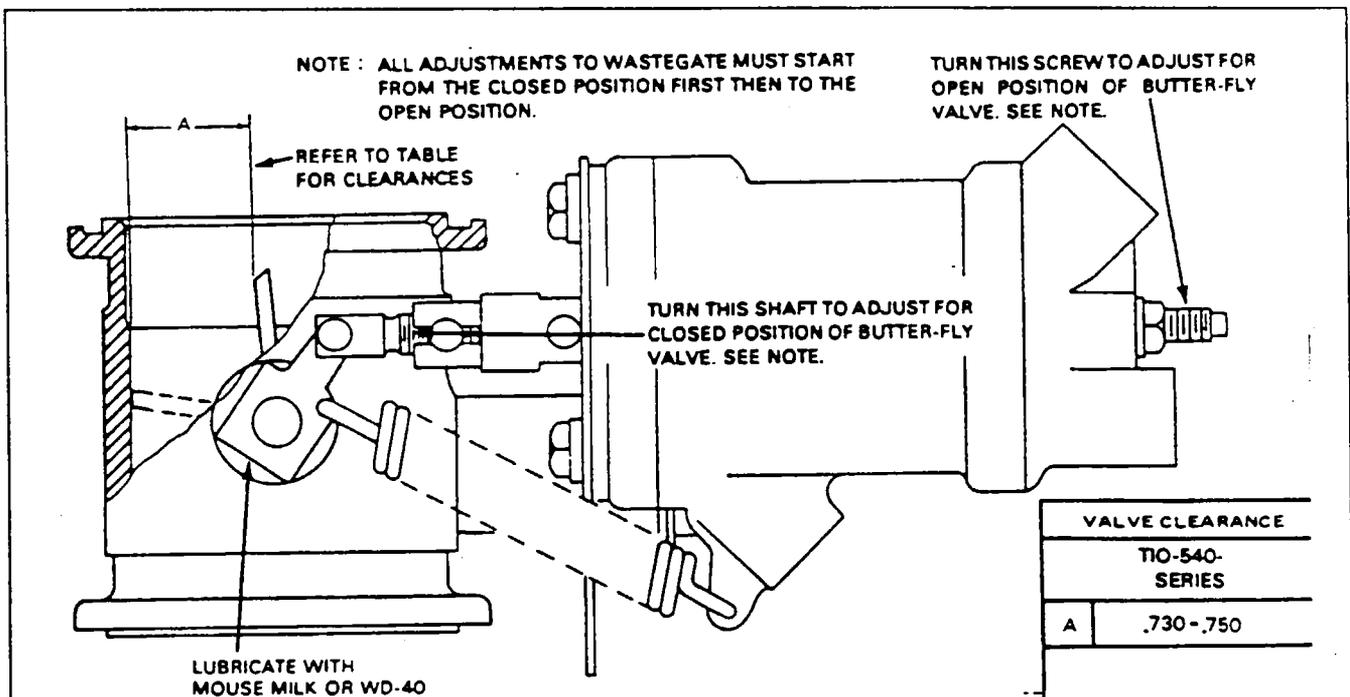

Figure 81-3. Exhaust Waste Gate
**EXHAUST WASTE GATE VALVE SETTINGS.** (Refer to Figure 81-3)
The butterfly valve in the exhaust waste gate assembly is set to a predetermined open clearance. A table of this clearance as given in Figure 81-3. With 50-60 psi pressure in the waste gate cylinder, adjust the closed position of the valve so that the waste gate valve firmly contacts the bore in the closed position. After adjusting the closed position and with no pressure in the waste gate cylinder, adjust the full open (A) position by adjusting the stop screw to provide the specified clearance between the valve and the side of the housing with backlash taken up towards the open position.